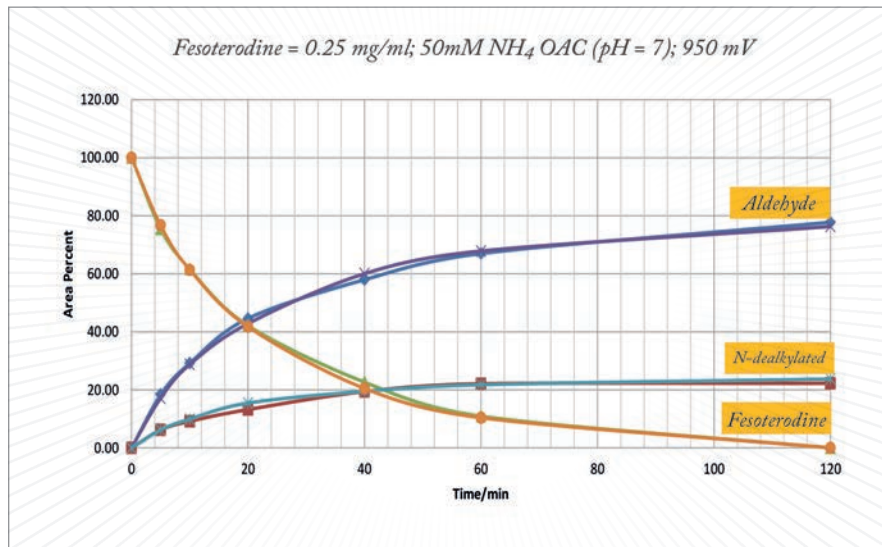

Figure 3. Overlaid curves showing the rate of formation of two target oxidation products produced by electrolysis of 20 mg fesoterodine fumarate (9).
Synthesizing API oxidation product markers for method development and validation can be technically challenging using traditional wet chemistry approaches, often requiring weeks of chemist time, plus sourcing and evaluation of starting materials and reagents. We wanted to see if we could use an electrochemical synthesis cell to produce oxidation product markers rapidly and directly from solutions of the API dissolved in electrolyte (9). Using fesoterodine as a model compound, we were able to produce the oxidation products directly from the API without the need to source special reagents (Figure 3). Better yet, we observed that the reaction was much more rapid and selective than in-house attempts to produce these oxidation products using traditional approaches. Attempts to produce larger amounts of material (starting with 80 mg substrate) were successful too, with the trade-off that the total conversion rate in two hours was reduced to approximately 75 percent. A mixture of products was produced so individual pure products were recovered using preparative HPLC and centrifugal evaporation.